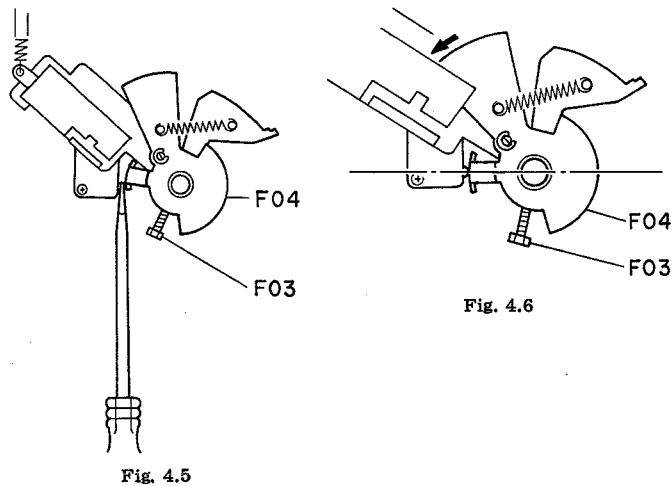

Fig. 4.6
- (4) Turn F04 and align so that it is located as shown in Fig. 4.6. Tighten F03 with a socket wrench.